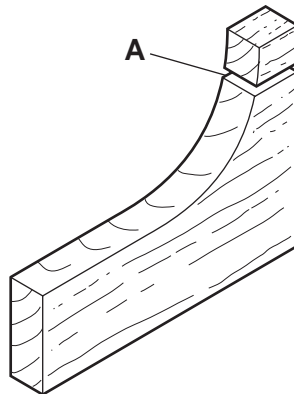

Fig. 5
- 7 Fig. 5 shows a corner bracket made from solid wood. During fixing, it snapped at A.